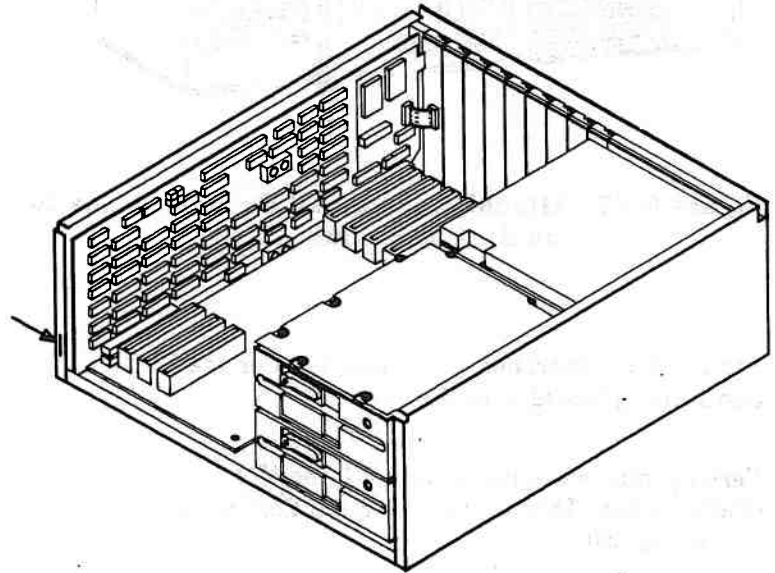

Figure 3-36. Fitting a Small Expansion Box to the System Module
7. Insert the tab on the Small Expansion Box into the slot on the left front of the System Module (Figure 3-36). Make sure that the signal cables are placed into the System Module so they are not pinched.